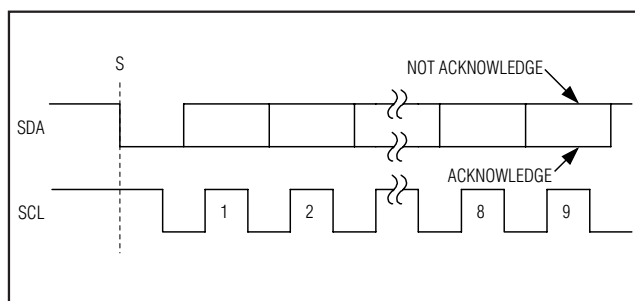

Figure 6. Acknowledge Bits
Data transfers are acknowledged with an acknowledge bit (A) or a not-acknowledge bit (Ā). Both the master and the MAX11646/MAX11647 (slave) generate acknowledge bits. To generate an acknowledge, the receiving device must pull SDA low before the rising edge of the acknowledge-related clock pulse (ninth pulse) and keep it low during the high period of the clock pulse (Figure 6). To generate a not-acknowledge, the receiver allows SDA to be pulled high before the rising edge of the acknowledge-related clock pulse and leaves SDA high during the high period of the clock pulse. Monitoring the acknowledge bits allows for detection of unsuccessful data transfers. An unsuccessful data transfer happens if a receiving device is busy or if a system fault has occurred. In the event of an unsuccessful data transfer, the bus master should reattempt communication at a later time.